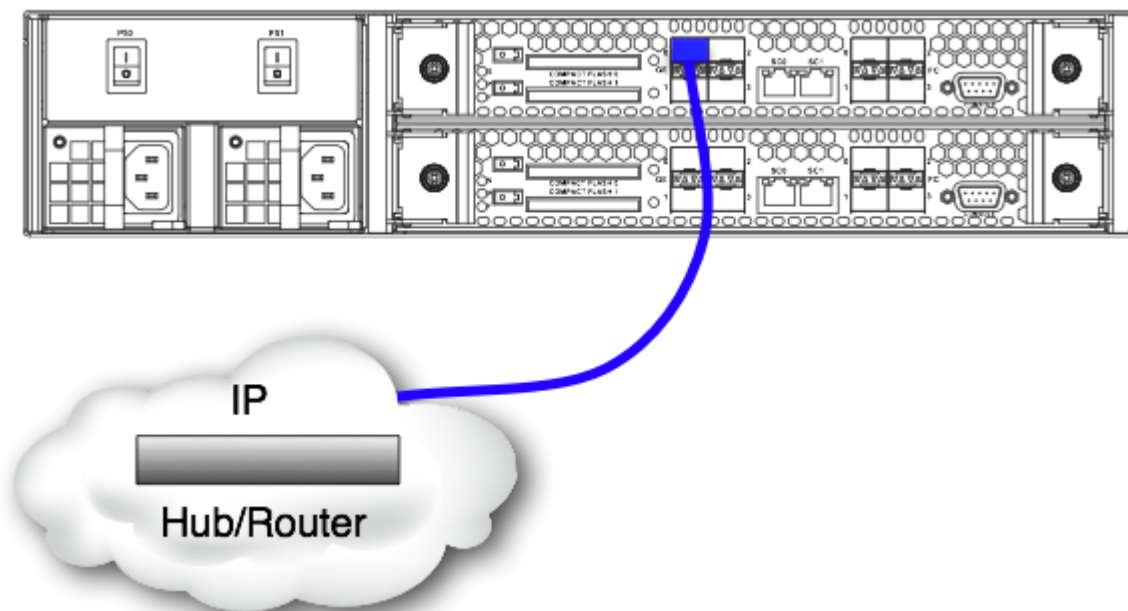

Figure 6-2 Connecting the ONStor Cougar 6000 Series NAS Gateway to the IP Network
Step 1: With one or more Gigabit Ethernet cables, connect the File Processing (FP) module, to a device in an IP network, as shown in Figure 6-2.